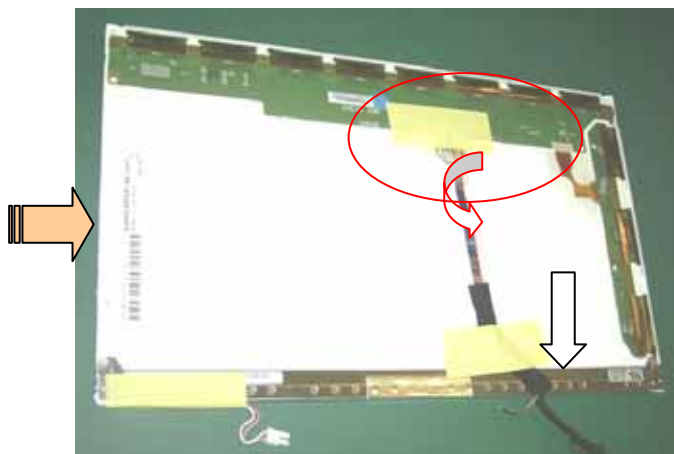

Figure 2-34 LCD FFC
3. Reverse the LCD panel. To tear open the silver tinfoil and remove LCD FFC. (Figure 2-34)